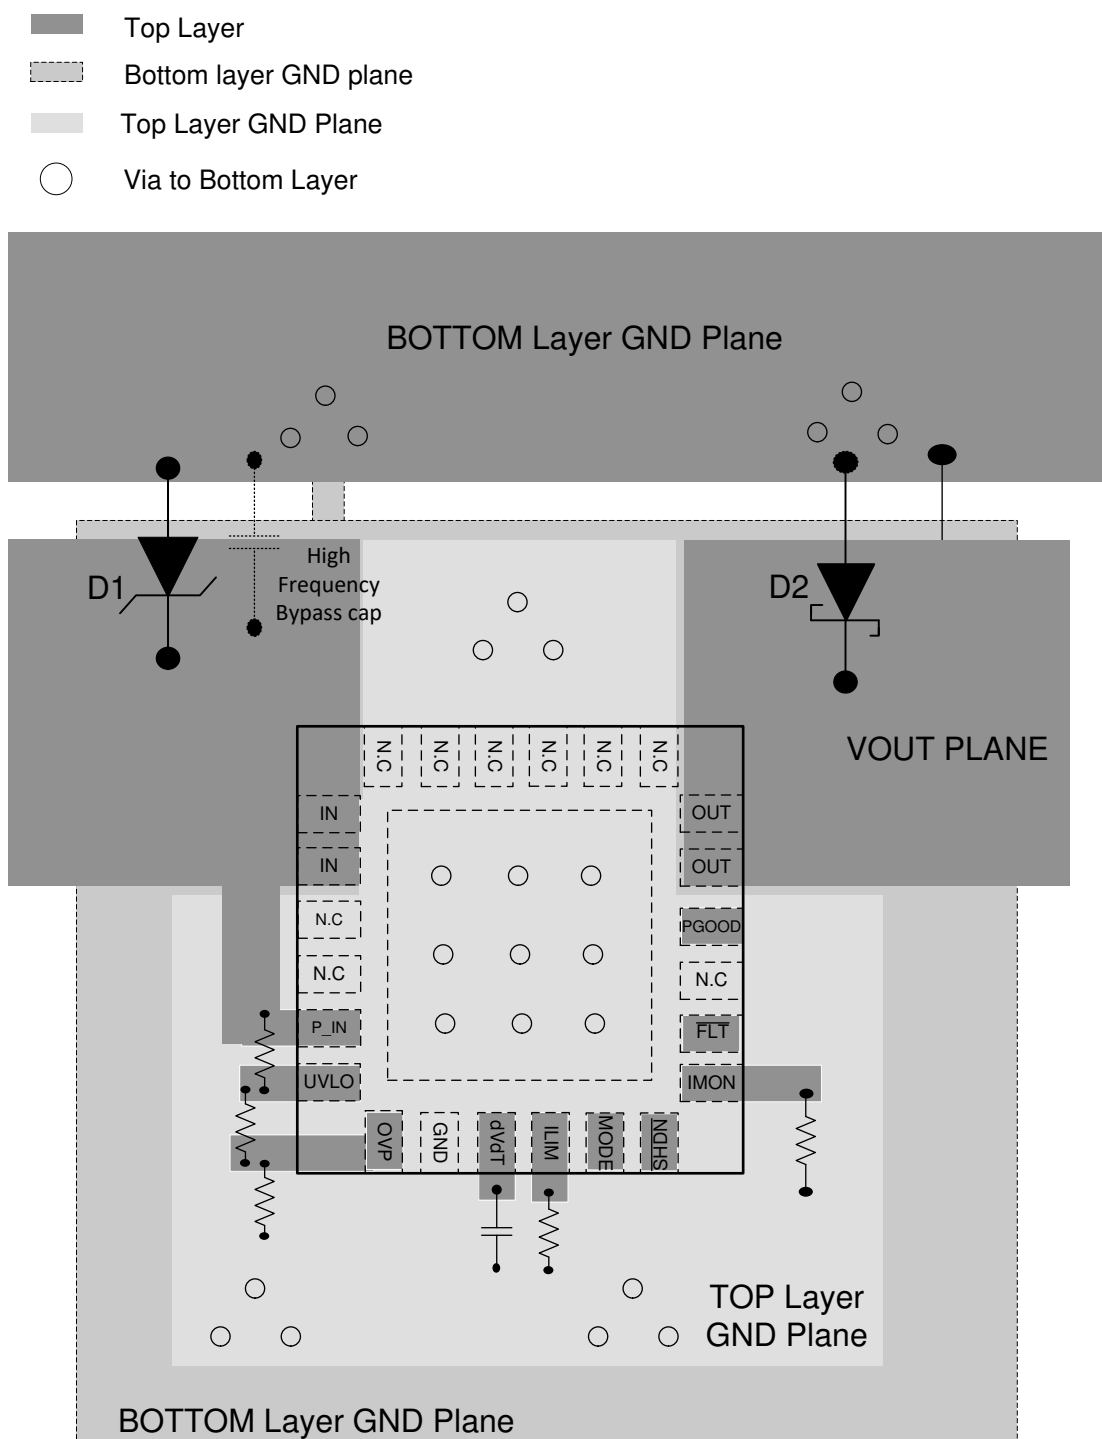
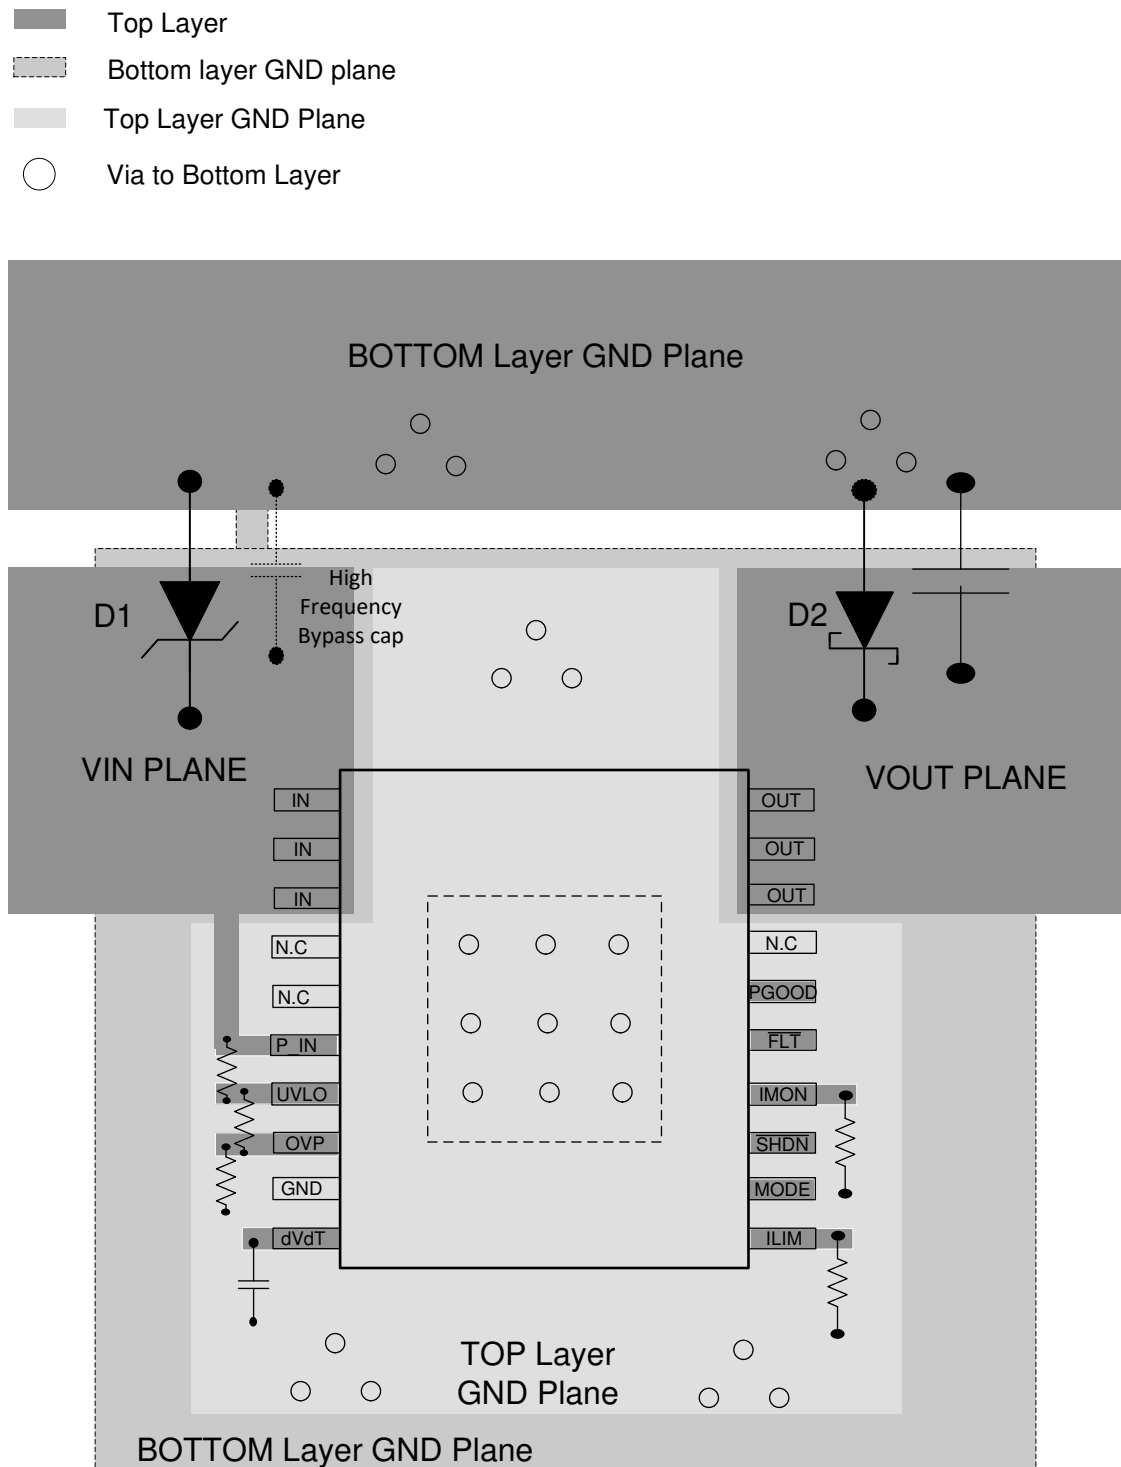

Figure 10-11. PCB Layout Example With QFN Package With a 2-Layer PCB
Figure 10-12. Typical PCB Layout Example With HTSSOP Package With a 2-Layer PCB
- High current carrying power path connections must be as short as possible and must be sized to carry at least twice the full-load current. See Figure 10-11 and Figure 10-12 for a typical PCB layout example.